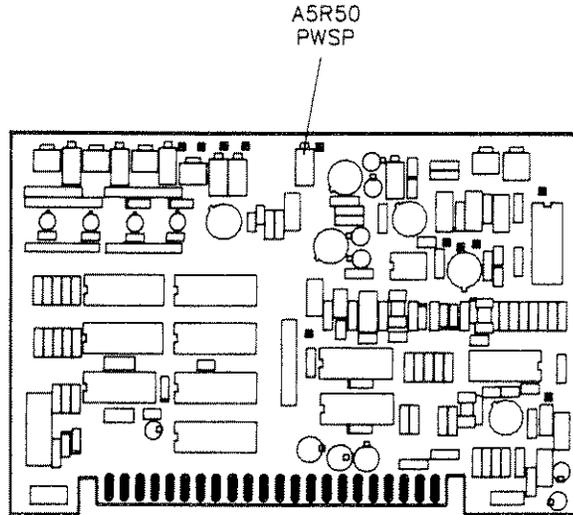
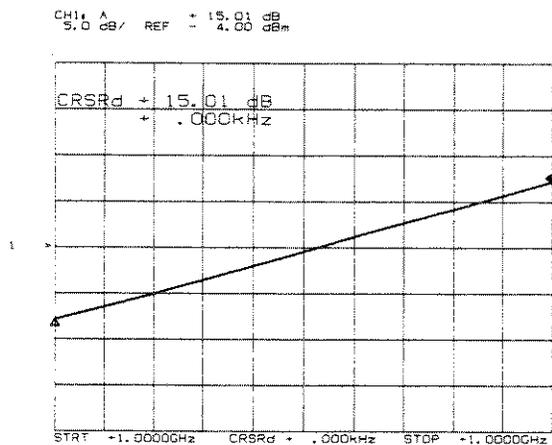

Figure 5-46. Power Sweep Adjustment Location
Figure 5-47. Power Sweep After Adjustment
5. While observing the network analyzer display of the POWER SWEEP output, adjust A5R50 (PWSP) for 15 dB/sweep (as displayed by the cursor Δ reading on the network analyzer). See figure 5-46 for adjustment location. Figure 5-47 shows a properly adjusted power sweep scaled at 5 dB/division.